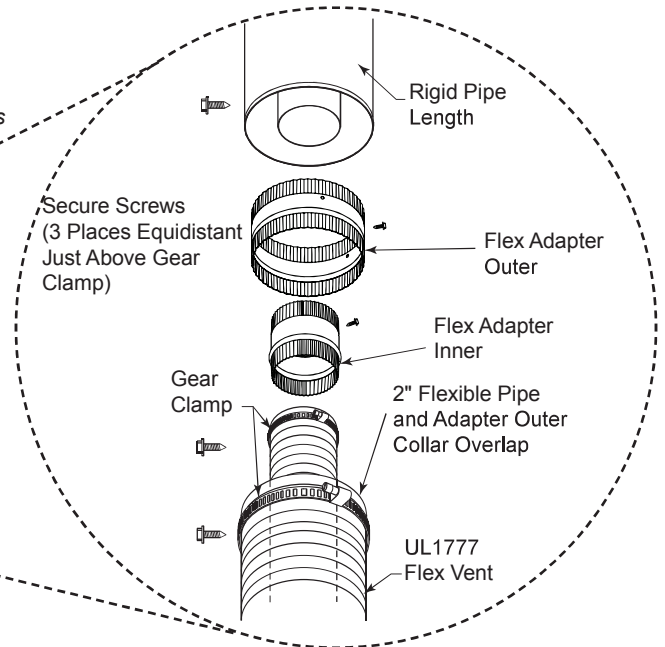

Figure 28 Typical Vertical Termination Connection
1. Attach the inner flex adapter to the inner pipe of the rigid pipe length using three (3) self tapping #10 screws.
2. Attach the outer flex adapter to the outer pipe of the rigid pipe length using three (3) self tapping #10 screws.
3. Attach the 5" and 8" flex pipe to the flex pipe adapter in the same manner as the starting adapter. See Figure 28.